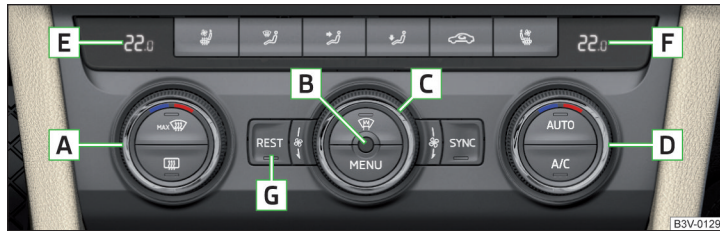
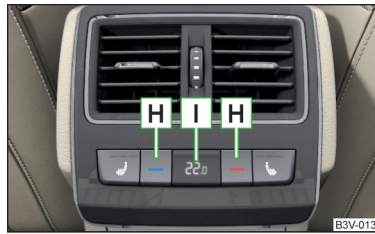

Fig. 155 Front operating elements
Fig. 156 Rear operating elements
**Functions of the individual controls** » Fig. 155 and » Fig. 156
- Do not cover the interior temperature sensor **B** » Fig. 155 as this could impair the functioning of the Climatronic.